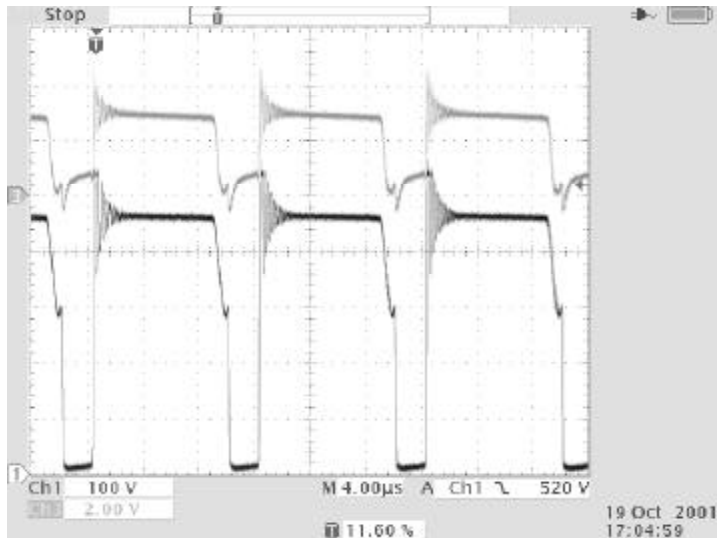

Fig 3) Drain (D) voltage of IRIS4013K (CH1) and the FB pin voltage (CH3) at 265VAC in/Full load output
Fig 3) shows the drain voltage and the feedback pin (FB) voltage at 265VAC input again with a full load output. Note that at the start of the ON time for the FET the FB pin signal has a higher dv/dt rise. This is due to the feedback signal from the output creating the offset voltage to keep the output power constant. Also note that the on-time is shorter and hence the operating frequency is higher.